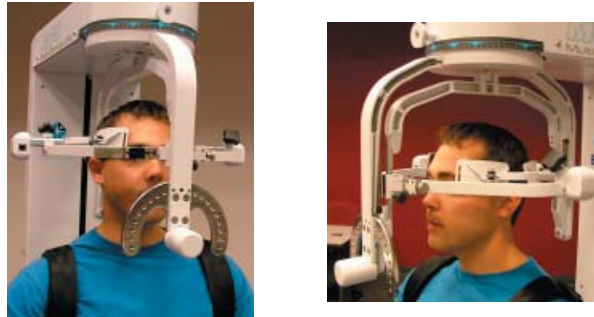

Figure 6-22. Final Set-up for ROM Lateral Flexion
Step 14. Remove the range-of-motion stop pin before performing the test (Figure 6-22).